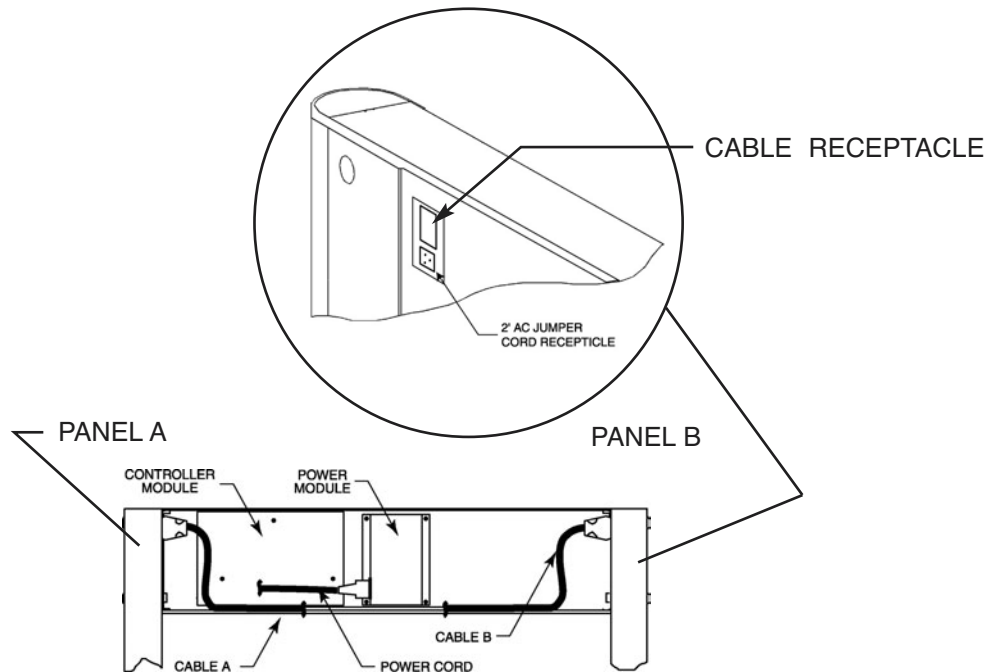

FIGURE 2-3
4. Open the door of the detection unit. Select a panel for power use (keeping in mind the location of the electrical outlet) and connect the AC jumper cord to the selected panel and the power module. Then, connect cables A and B to the corresponding panels. (See Figure 2-3)